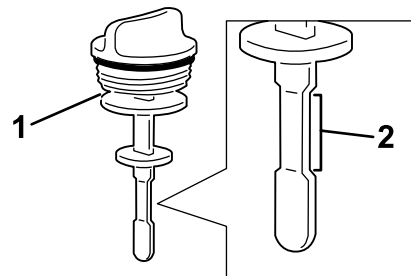

Figure 99
4. Remove the dipstick from the filler neck and check the fluid level (Figure 99).